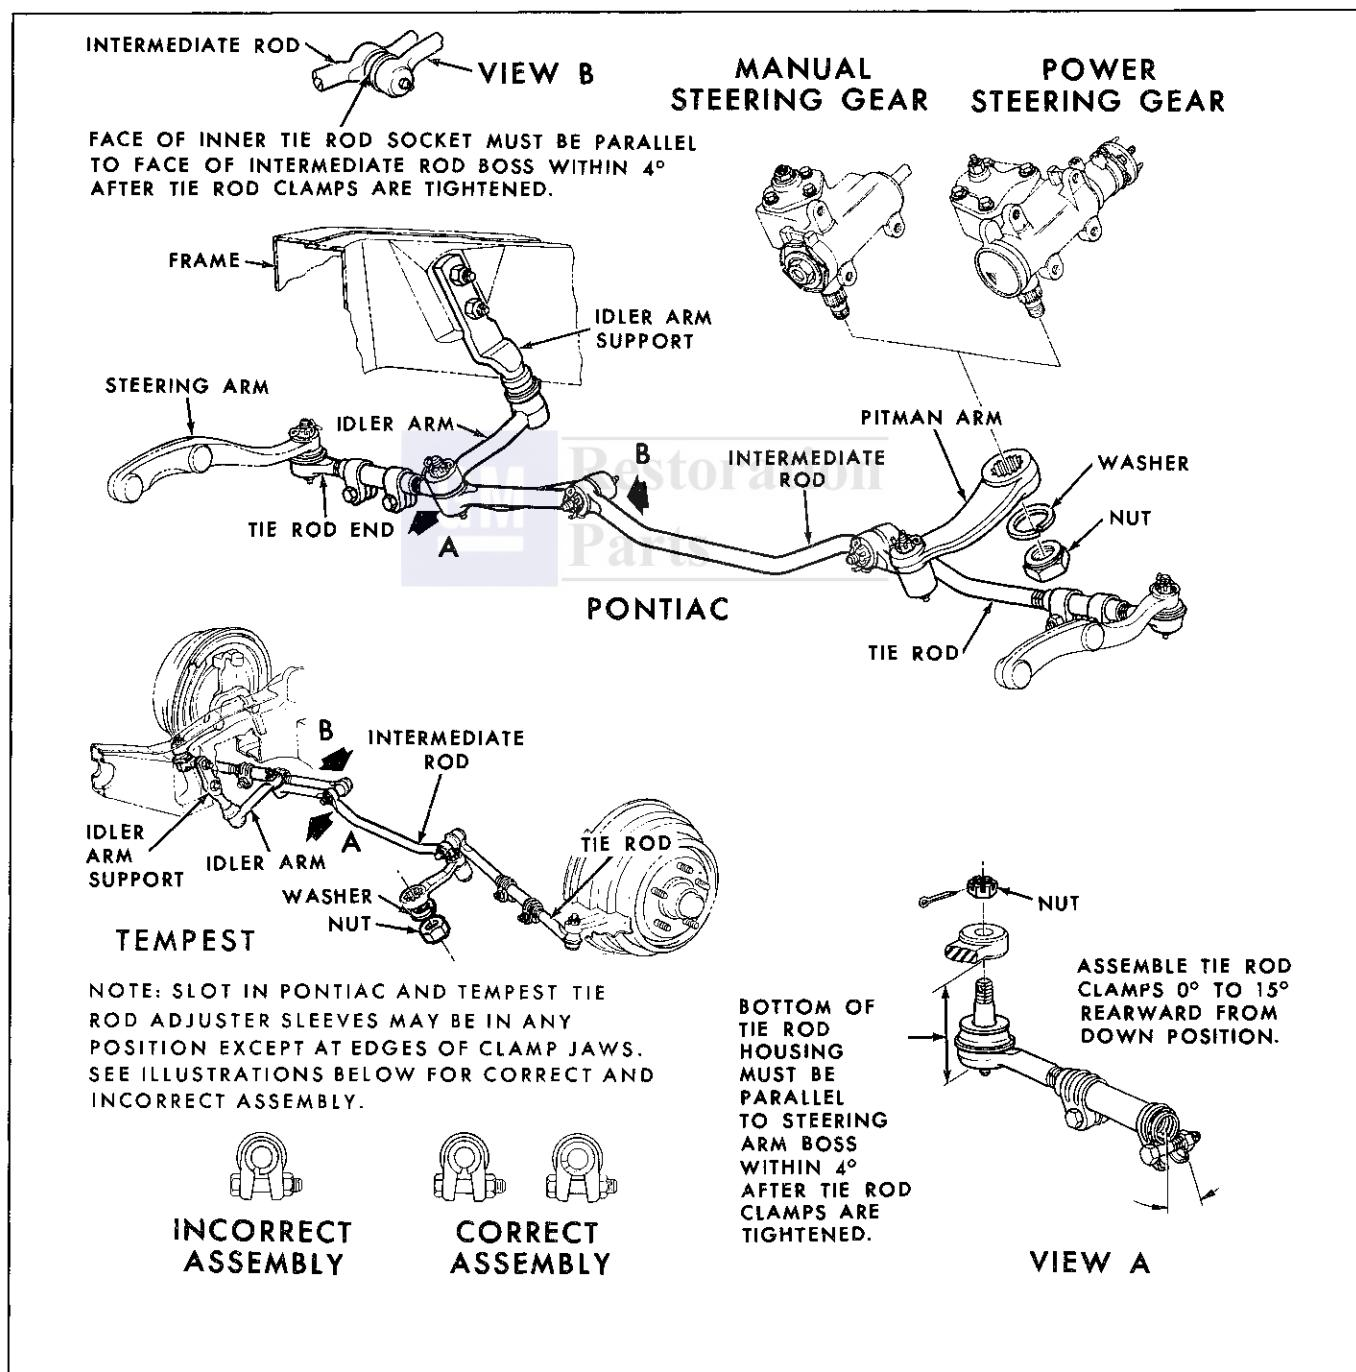
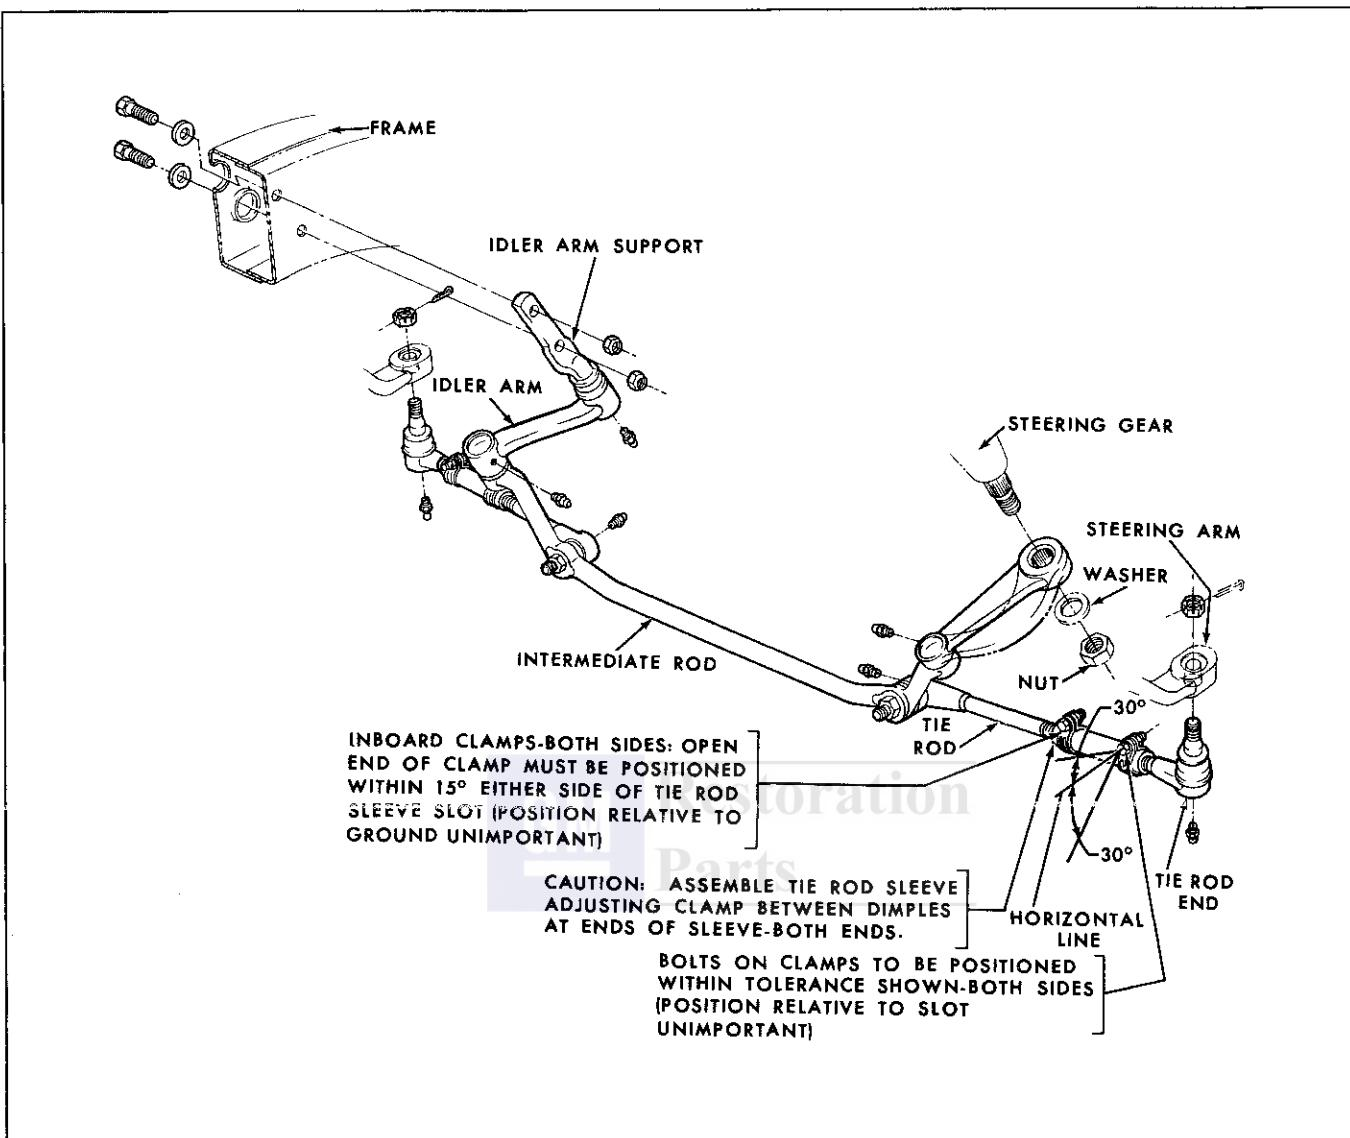

Fig. 9-35 Pontiac and Tempest Steering Linkage
Fig. 9-36 Firebird Steering Linkage
Steering connecting rod may be removed from both tie rods, pitman arm and idler arm by removing the ball shaft nut (Fig. 9-35 and 9-36). Since connecting rod is a solid shaft, it may be replaced by installing a new rod and connecting it to pitman arm, tie rods, and idler arm.
When new tie rods or tie rod ends are installed it is necessary to check toe-in. Check clamp bolts on tie rod adjuster sleeve assembly for tightness (17 ft. lb. torque) and bolts are to rear. Assemble tie rod clamps as shown in Fig. 9-35 for Tempest and Pontiac, Fig. 9-36 for Firebird models.
1. Raise vehicle and disconnect steering connecting rod from pitman arm (Fig. 9-35 and Fig. 9-36), using tool J 5504-01.